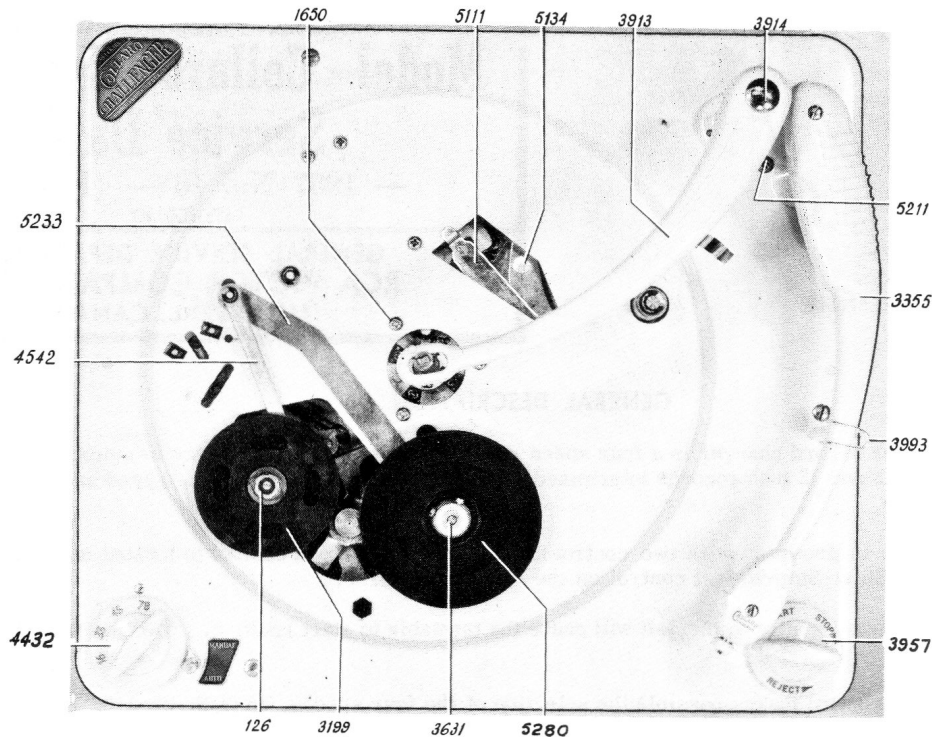

FIG. 1 TOP VIEW WITH TURNTABLE REMOVED
B) With the machine in the switched off position an eccentric roller (Ref 5134 Fig. 1) with a screwdriver slot can be seen on the top face of the cam gear. This eccentric when turned will make the test track wider or narrower. Before moving the eccentric, mark cam and track adjuster with a pencil. To make the set down position further in from the edge of the record, the test track should be made wider.